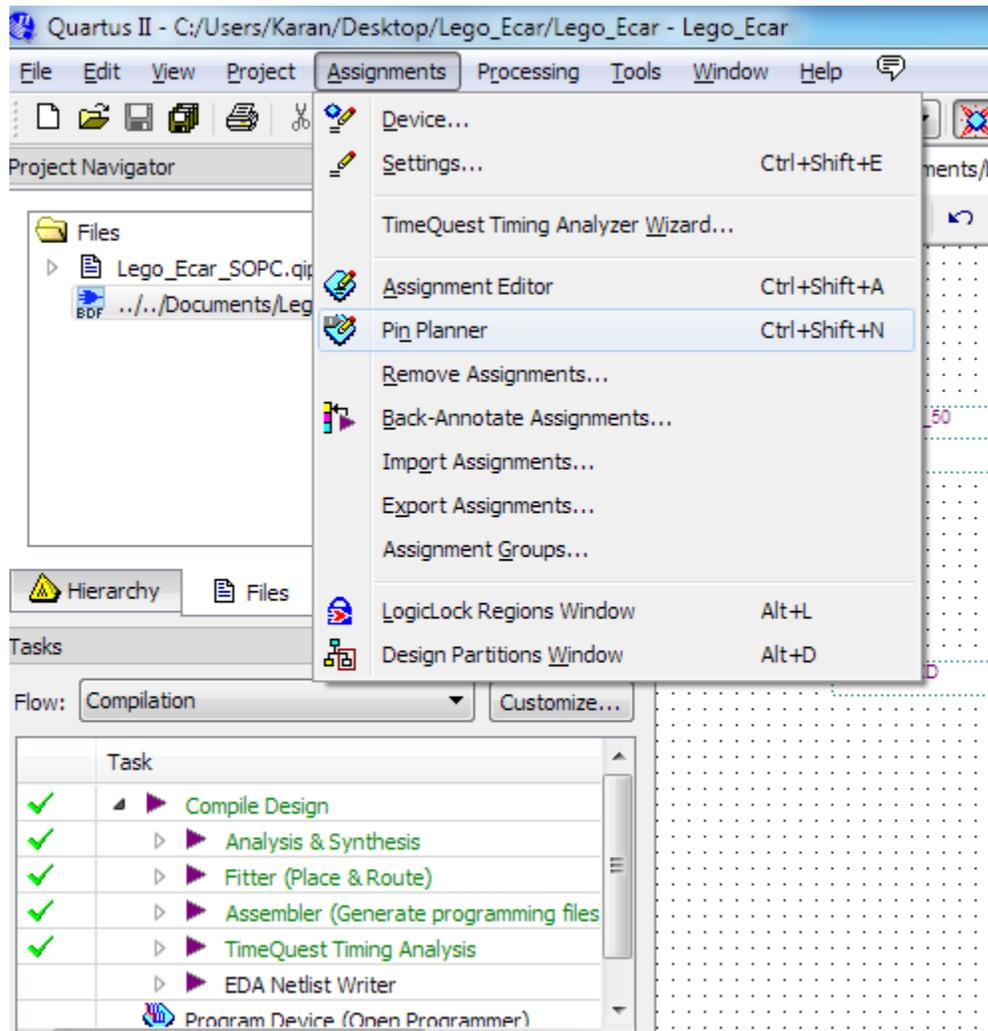
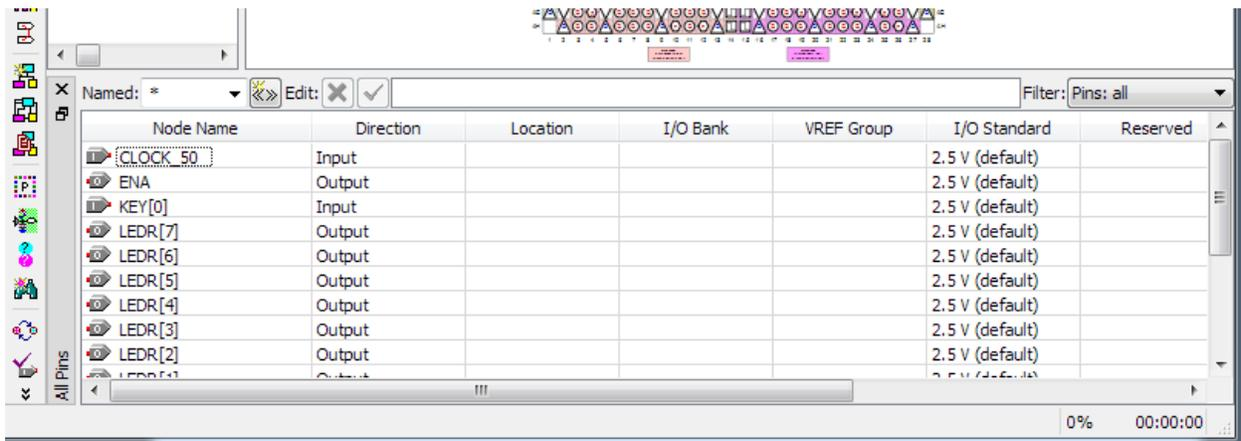

Figure 1-60 Pins menu
Figure 1-61 Blank Pins
40. Choose **Assignments > Pin Planner** to open pin planner as shown in Figure 1-60. Figure 1-61 show blank pins.